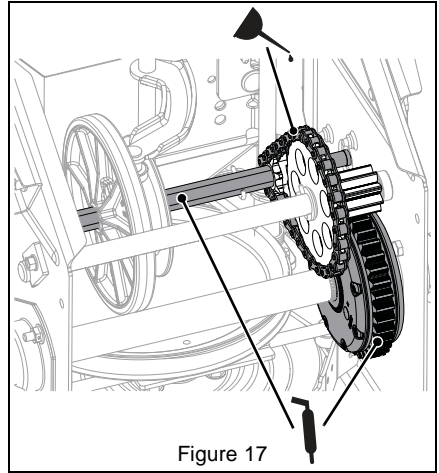

Figure 17
2. Lubricate as shown in Figure 17 and 18.